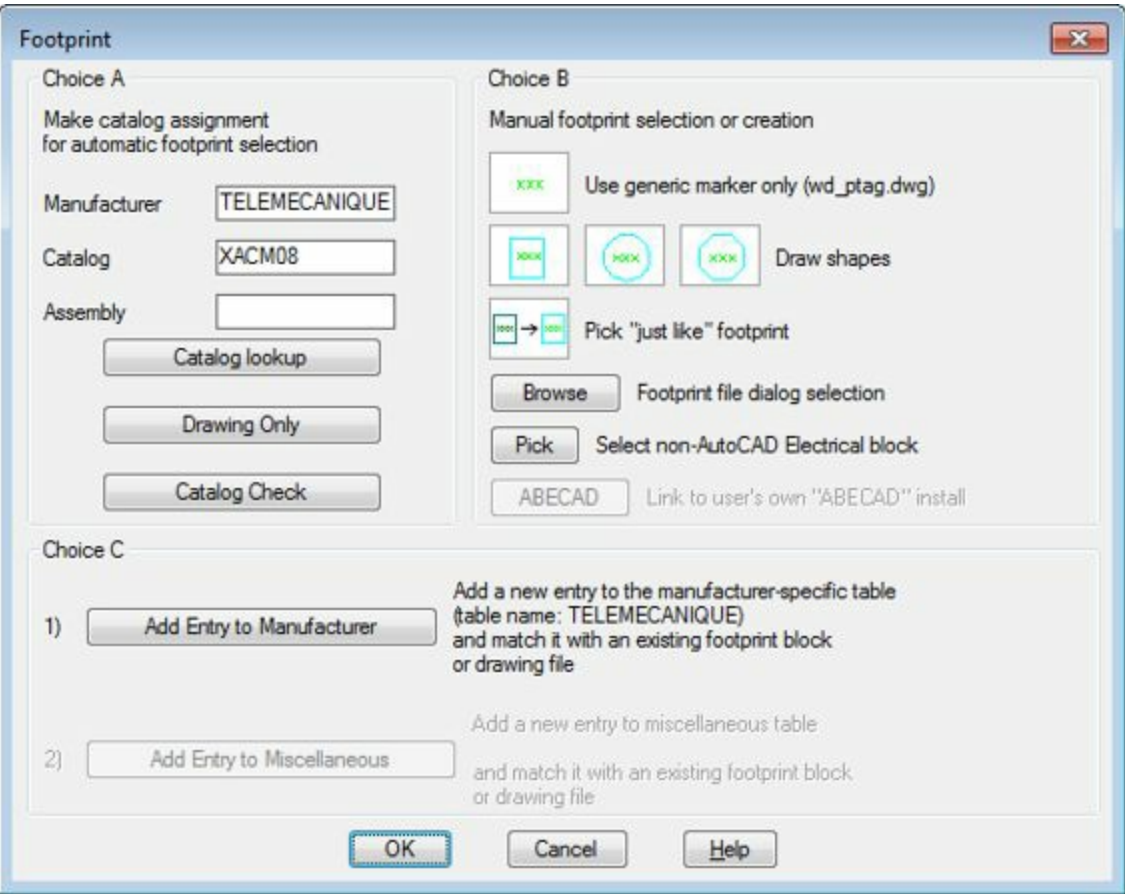

Figure-51. Footprint dialog box for enclosure
- Click on the **Enclosures** category in the dialog box. The **Footprint** dialog box will be displayed; refer to Figure-51.